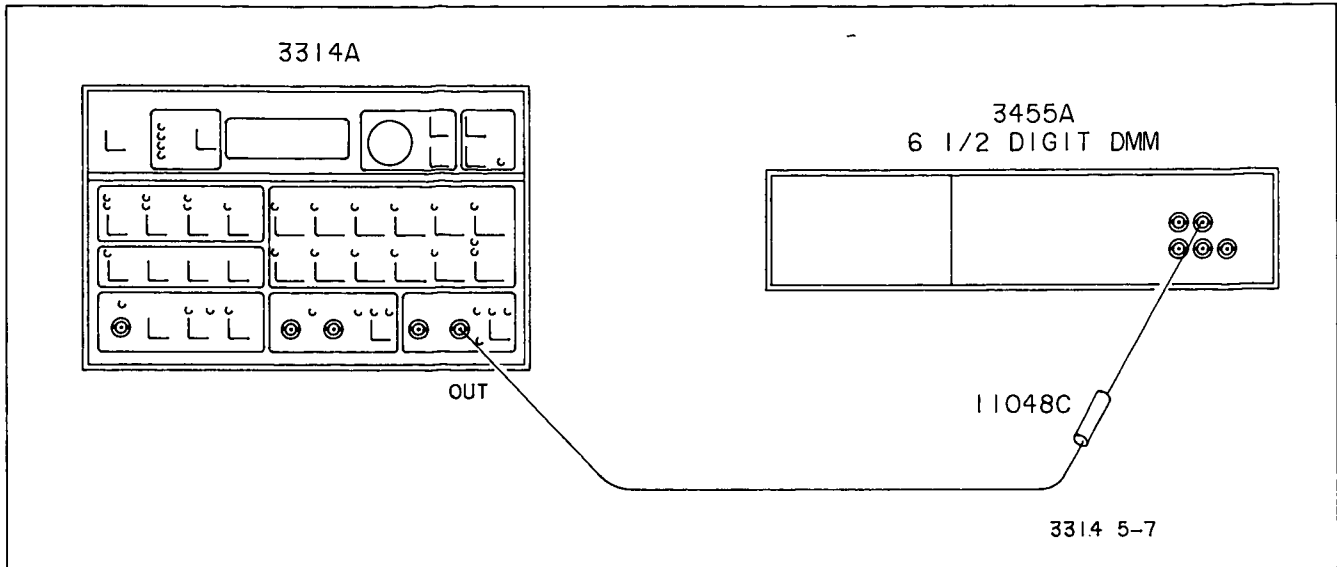

Figure 5-14. Amplitude Calibration Pad Selection.
F. Connect the 3314A to the voltmeter via the 3314A’s “Function” output. (See Figure 5-14.)